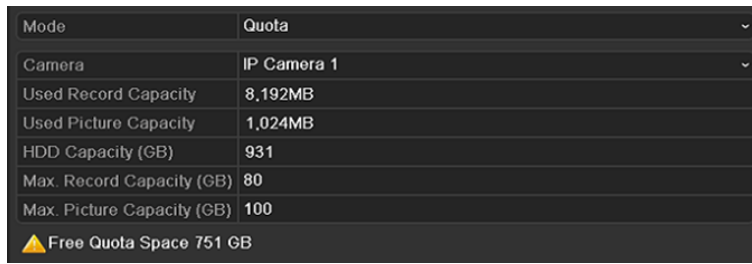

Figure 12-16 Storage Mode Settings Interface
Step 2 Set the **Mode** to Quota, as shown in Figure 12-16.